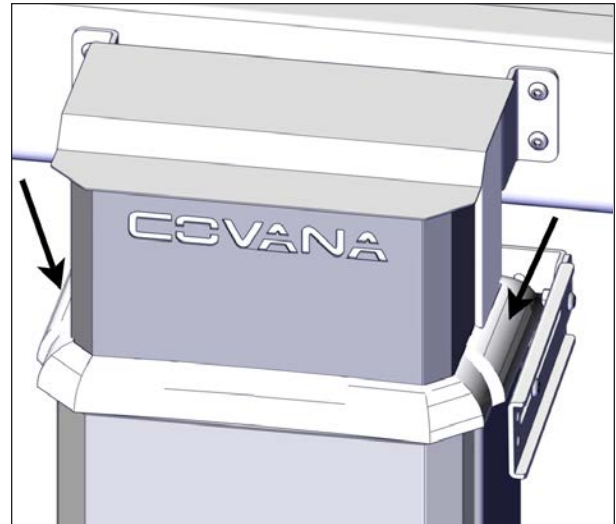

FIGURE 91: SEAL INSTALLATION
24. For all posts, slide the all-weather seals down. Ensure they are properly seated on the outer sleeve base. Push down on the seal as shown in Figure 91.